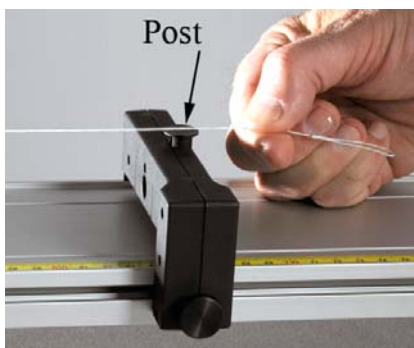

Figure 13. Setting Zero Angle
2. Hold the other end of the string over the center of the post on the Endstop as shown in Figure 13. Have the Endstop as far from the Rotary Motion Sensor as possible. Click on Monitor in the Experiment Control Bar. The Rotary Motion Sensor will zero on start at this initial position. Note that the Angle and Forces are shown in the Digits display.